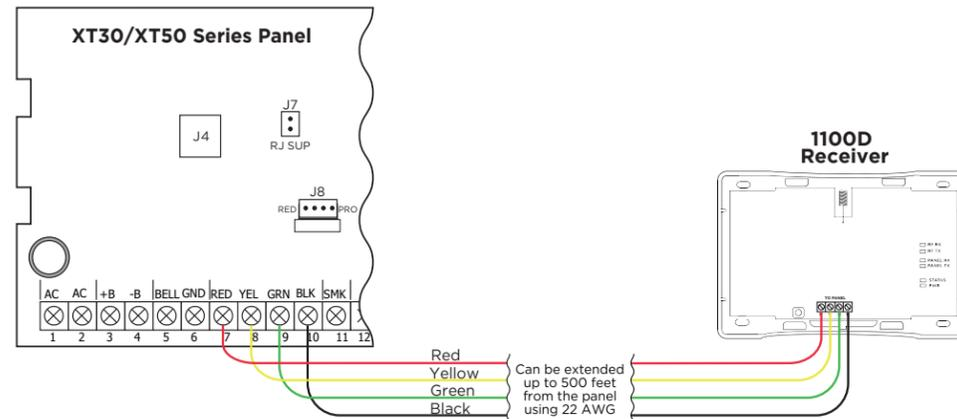

Figure 3: 1100D Series Wiring
Refer to Figure 3, the panel programming guide and use the following steps to connect the panel and receiver:
1. Using a 4-wire harness, connect from the 1100D Wireless Receiver header (see Figure 3) to the panel keypad bus terminals 7, 8, 9, and 10. Observe wire colors when connecting to the terminals.